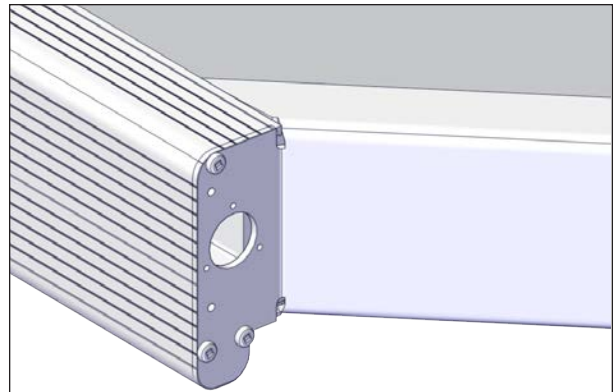

FIGURE 67: PUSH ROPE INSIDE THE C-CHANNEL
2. Push the wire in the C-channel and repeat this step on the 3 other cover corners, see Figure 67.